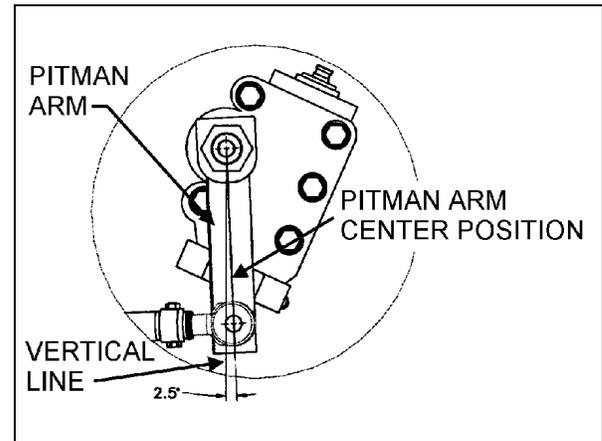

FIGURE 7: PITMAN ARM ALIGNMENT
1. The pitman arm should be adjusted with reference mark aligned or to an angle of 2.5° in relation with the vertical axis (Fig. 7).
2. Install fixing nut. Tighten nut to 405-445 lbf·ft (550-605 N·m) (Fig. 7).